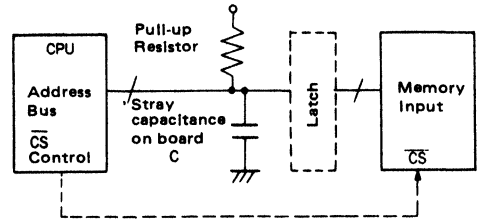

Figure 3-7
- Insert latch as shown in Figure 3-7 lest Address Input should become floating.